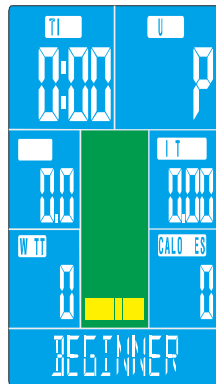
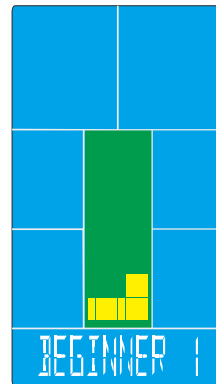

FIGURE 9
FIGURE 10
- If select BEGINNER function (Figure 9), press MODE confirm to next step. Set BEGINNER1~4 (Figure10), press UP/DOWN to select BEGINNER 1, and press MODE to confirm entering this mode, you can press UP/DOWN button to adjust and set TIME or directly press START button to start workout. After START,